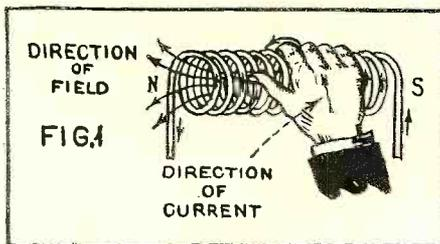

Figure 1. Right-hand rule for determining the magnetic poles of a solenoid coil
One well known dodge to make a radio set go down and dredge up the low notes is to connect a fixed condenser of .00025 to .008 mfd. across the secondary of the audio transformer as shown (a) of Figure 1. This does it very nicely, but it of course cuts the signal strength quite appreciably since in the higher values of condenser capacity considerable audio frequency is by-passed.
A better scheme is shown (b) Figure 1. The condenser is connected between the plate and grid connections on the transformer. This makes the transformer work as an impedance coupling unit and as a transformer as well. The result is something that apparently has good features of both and sounds very well if the condenser is chosen properly. The condenser size cannot be predicted as it will vary with the transformers and tubes used. Try .006 mfd. as a beginning step. The advantage of this connection lies in the fact that it will increase the low frequency response as well as cut off the high frequencies.
*"Grasp the coil with the right hand so that the fingers extend in the direction in which the current is flowing around each turn of wire; the extended thumb will then point toward the north pole." Figure 1.*